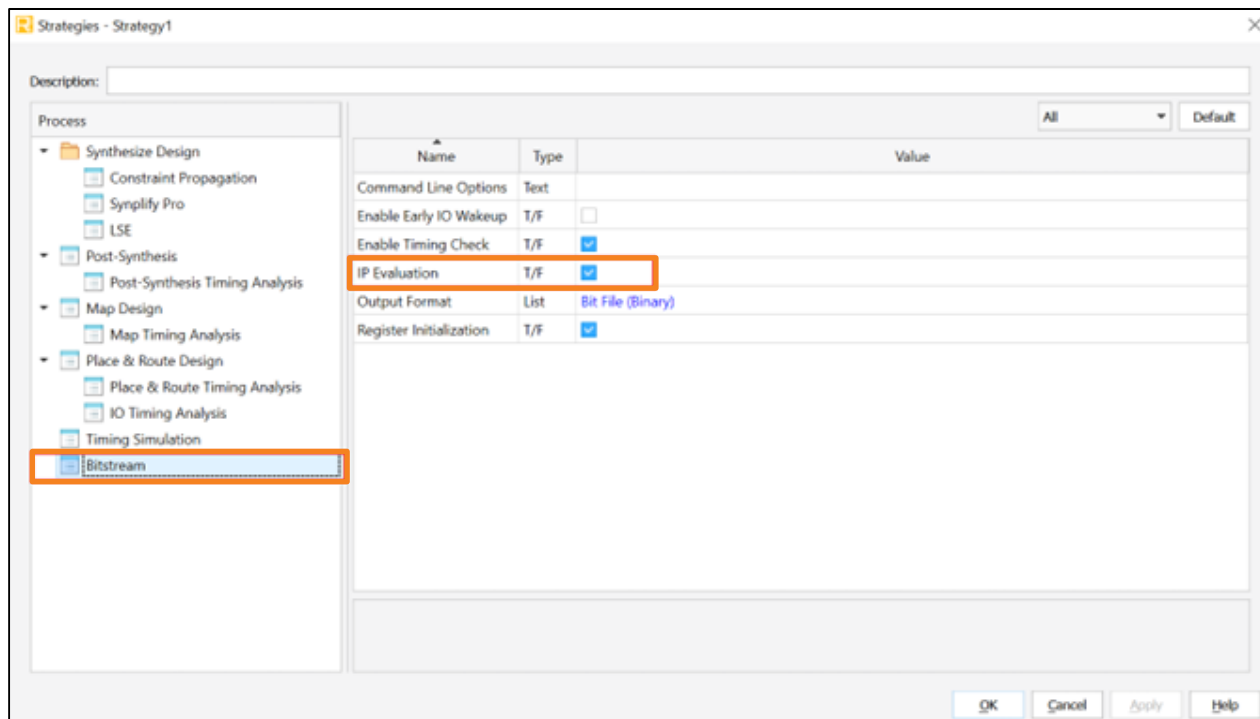

Figure 4.19. IP Evaluation
- To successfully generate a bitstream, you must have installed licenses for the Lattice IPs used in the design. If you do not have a license for one or more IPs, use the “IP Evaluation” feature available in Radiant Software as shown in Figure 4.19 to create a time limited version of the bitstream.